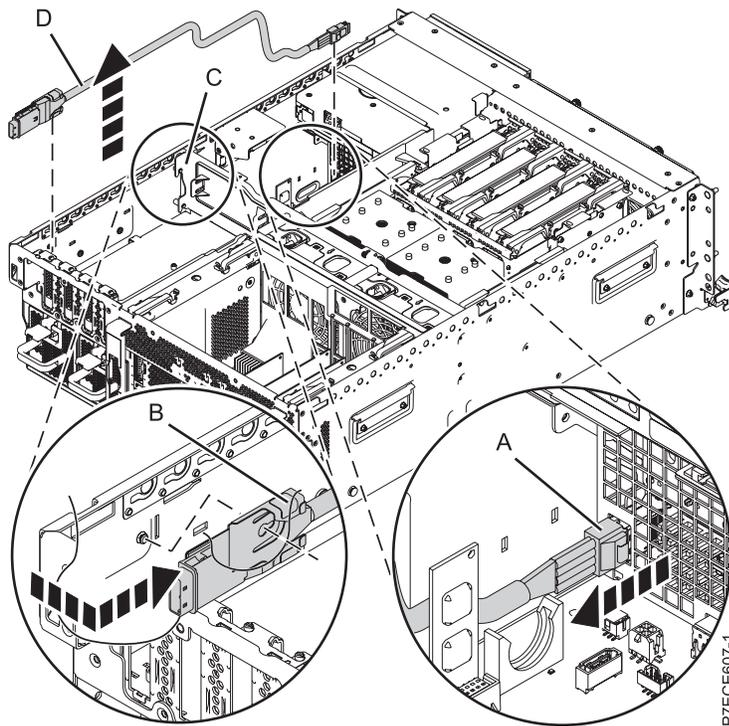

Figure 37. Removing the external SAS port
9. Press the side tab and pull out the SAS shroud (A) from the external SAS connection port on the disk drive backplane, as shown in Figure 37 on page 61.
10. Push the SAS connection port down (B) and then pull out the SAS cable (D) from the system backplane.
11. Pull out the SAS cable (D) from the center brace (C) and out of the system.